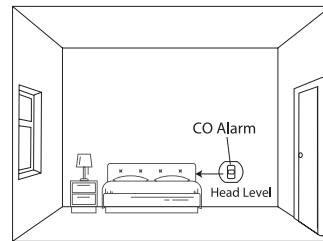

Figure 2: Installation in a bedroom or room without a fuel-burning appliance (installed at head level)
**2. Installing the CO alarm in a bedroom or room without a fuel-burning appliance (see Figure 2):**